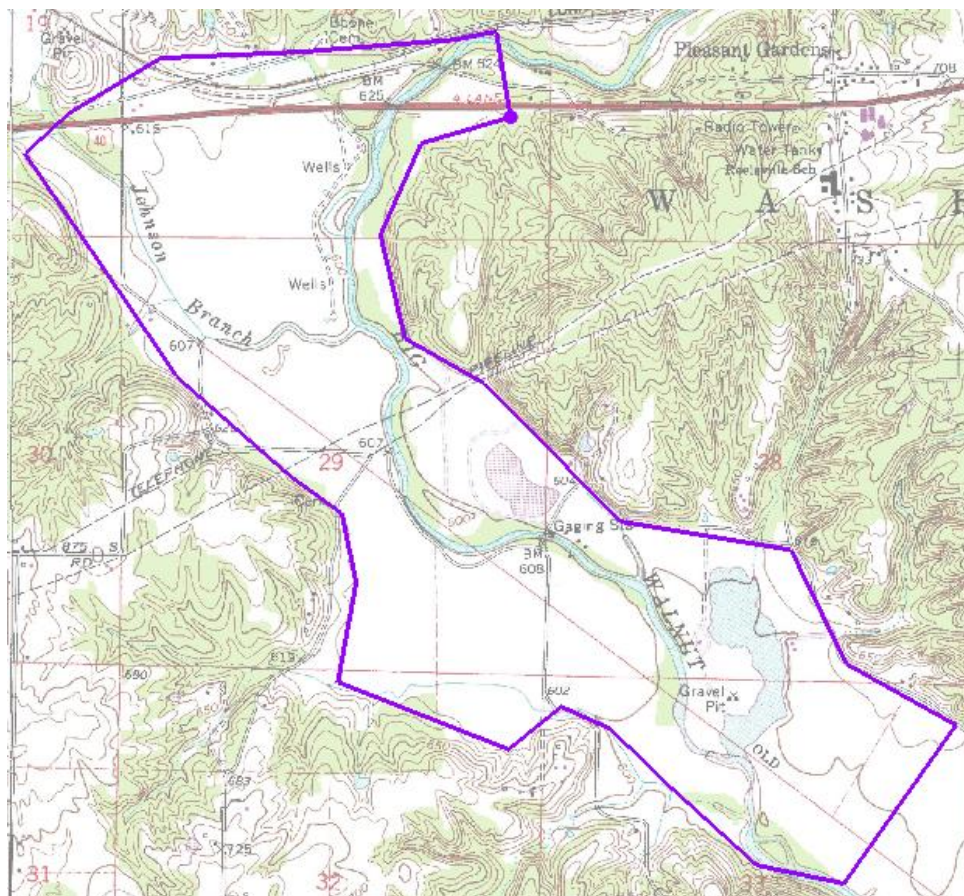

Figure 2 Boundary arcs
It is now possible to enter the model data. First, create a MODAEM conceptual model. Second, create coverages to define the boundary conditions and aquifer properties. The boundary of the model is shown in Figure 2.
10. Using the **Create Arc**  tool, click out the boundary as shown in Figure 2 below.